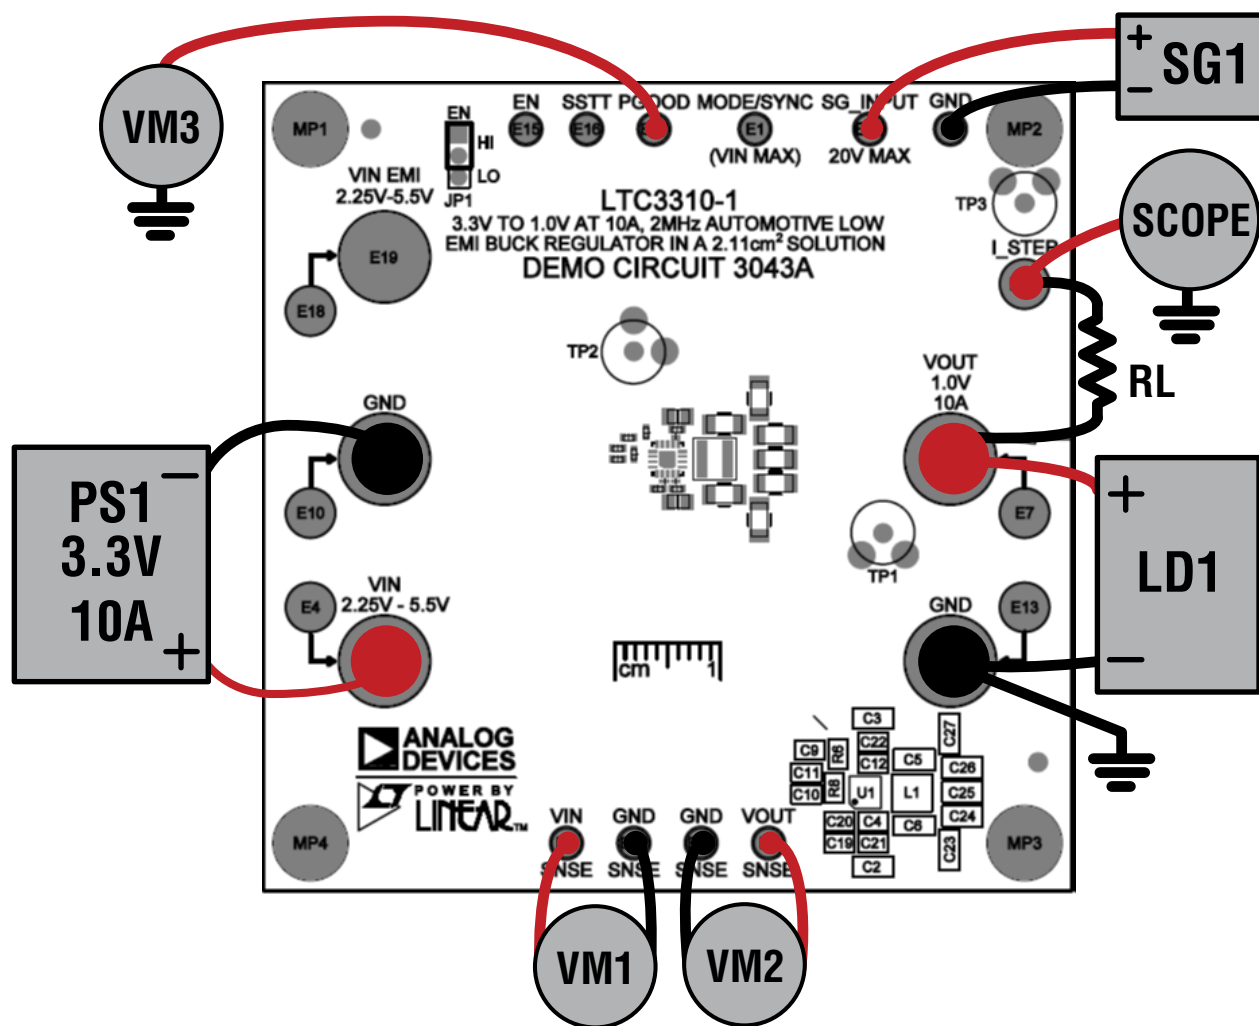

Figure 1. Test Setup for the DC3043A Demo Board
Demonstration circuit 3043A is easy to set up and evaluate the performance of the LTC3310-1. Refer to Figure 1 for proper measurement equipment setup and follow the procedure below:
NOTE: For accurate  $V_{IN}$ ,  $V_{OUT}$  and efficiency measurements, measure  $V_{IN}$  at the VIN SNSE and GND SNSE turrets and  $V_{OUT}$  at the VOUT SNSE and GND SNSE turrets as illustrated as VM1 and VM2 in Figure 1. When measuring the input or output voltage ripple, care must be taken to avoid a long ground lead on the oscilloscope probe. Measure the output voltage ripple by touching the probe tip directly across the output turrets or to TP1 as shown in Figure 2.
7. To test the transient response with a base load, add the desired resistor to produce a minimum load between VOUT and I\_STEP turrets (RL shown on Figure 1). Note that the total load resistance will be RL plus R10 (50m $\Omega$ ). Adjust a signal generator with a 10ms period, 10% duty cycle and an amplitude from 1V to 2V to start.